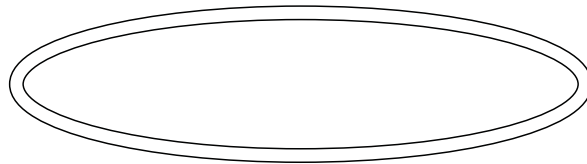
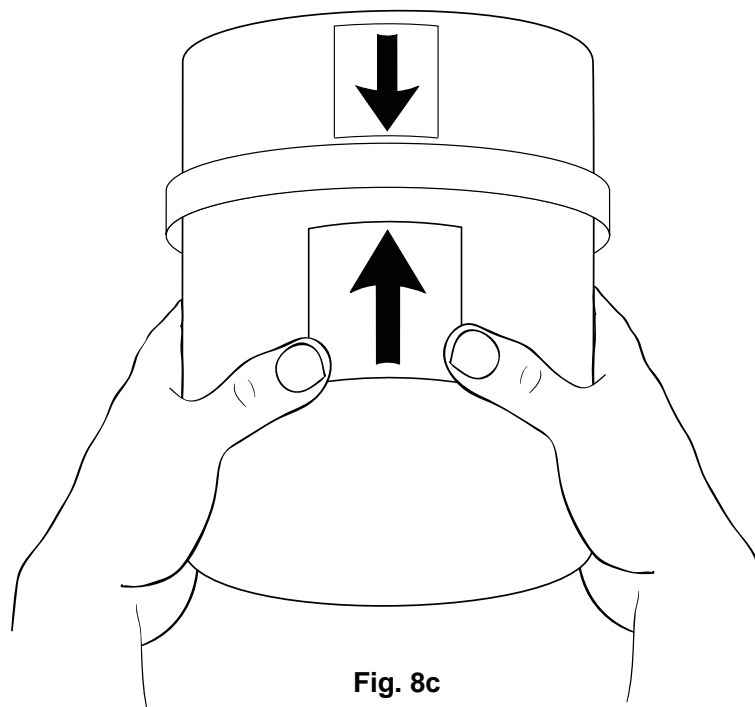

Fig. 8b
Fig. 8c
8.8 Once completed, reinstall the o-ring gasket around the bottom tank collar. Please see Fig. 8b. Align the two arrows located at the front of the tank and the fixed part while lifting the tank in place. Please see Fig.8c. Apply even pressure to secure the tank properly in the tank cover. Then close the latch holding the tank in position. The clamp should close with minimal pressure. Verify that the o-ring gasket and tank are seated properly by checking for leaks when re-starting the humidifier.